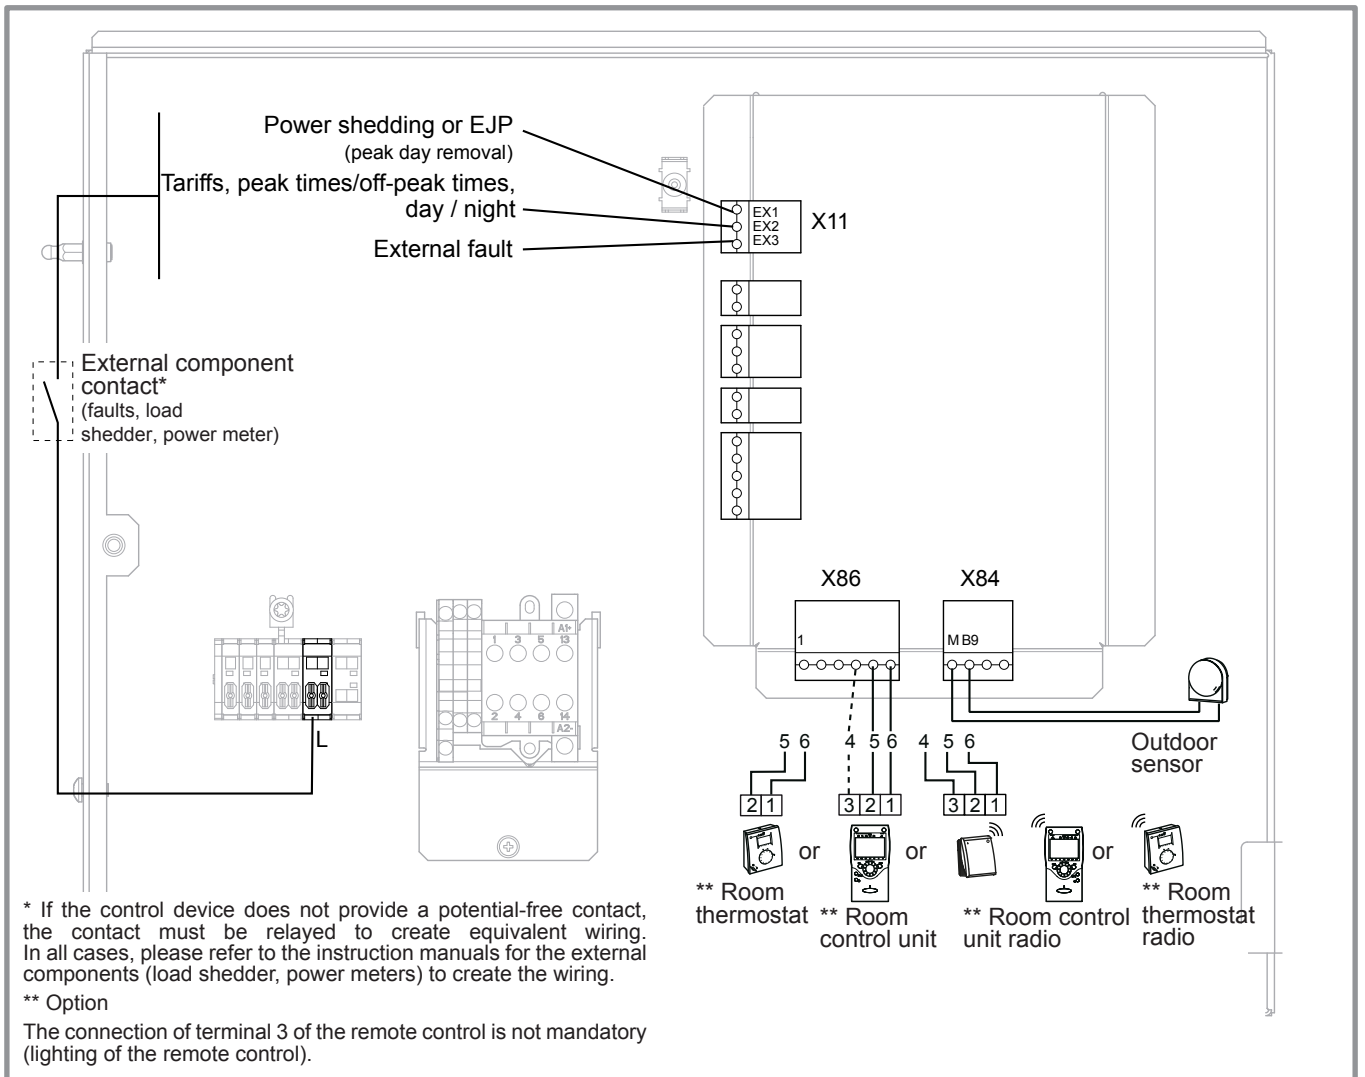

figure 39 - Connections to the heat pump regulator (accessories and options)
- Make the connections in accordance with the diagram figure 39.